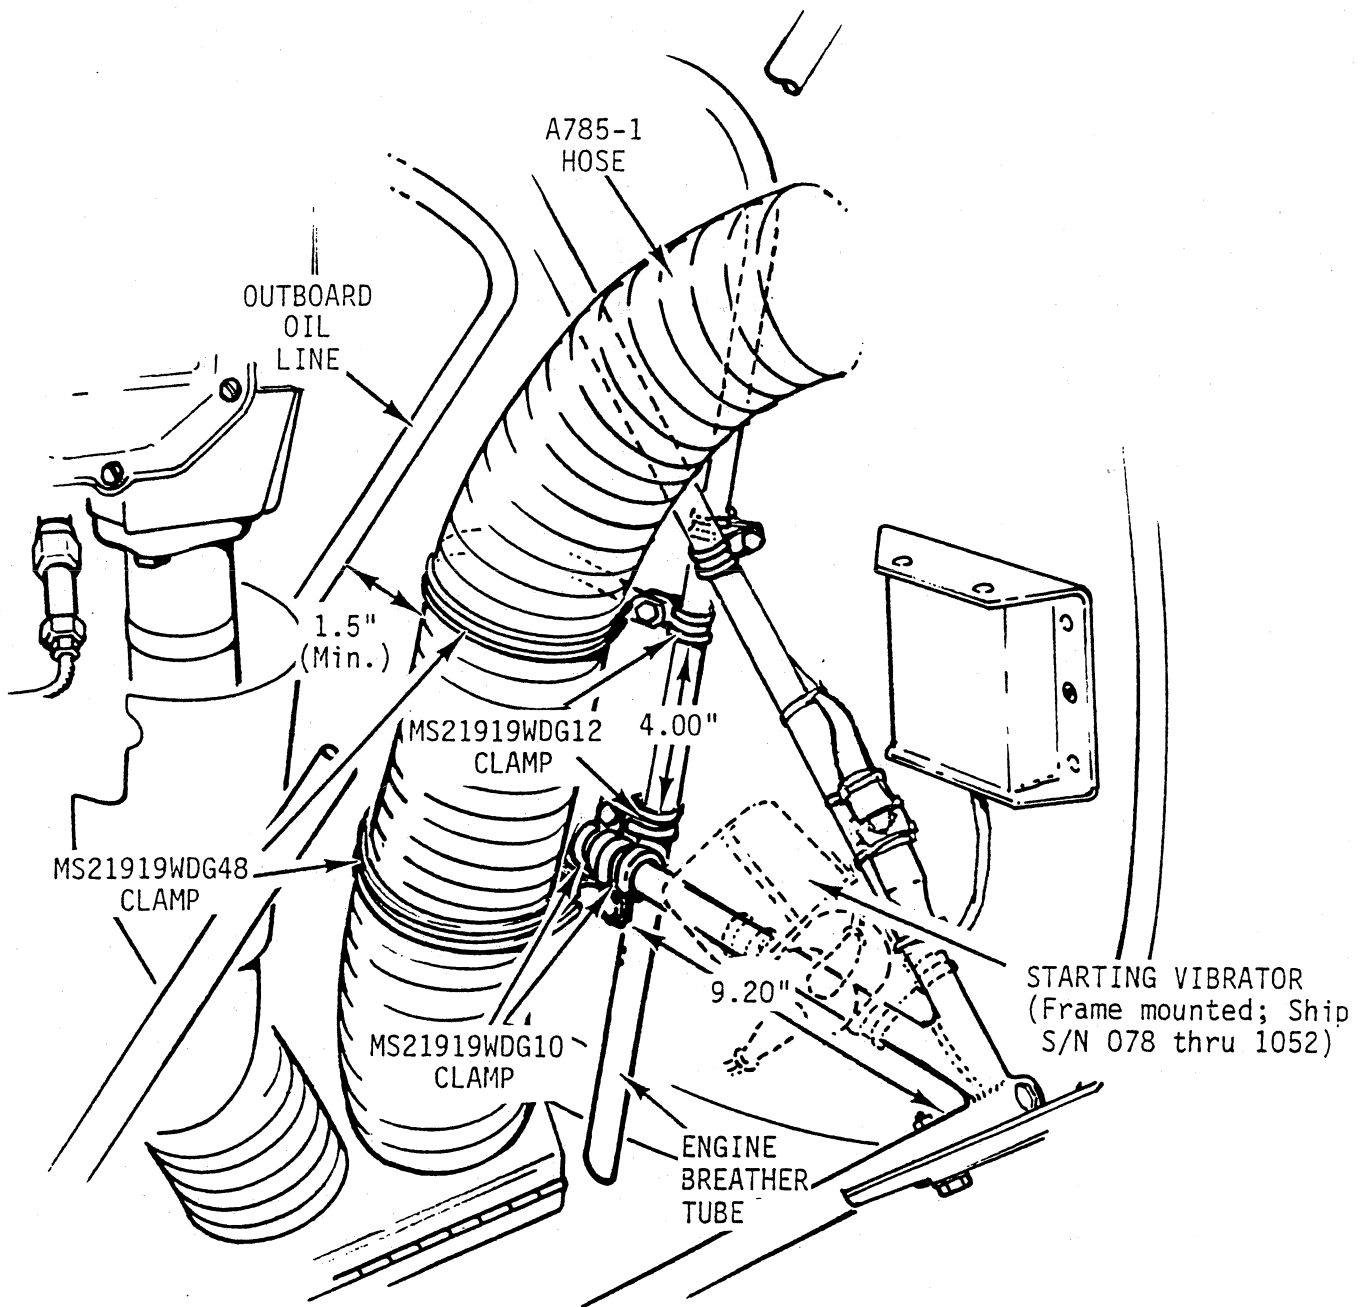

FIGURE 1
6. Reinstall all hose clamps as shown in Figure 1. Maintain minimum of 1.5" between A723 outboard oil cooler line and A785-1 carburetor air induction hose.